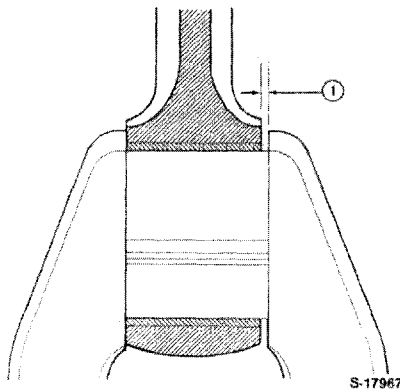

Figure 63
- Push the rod from side to side and check the clearance between the connecting rod and crankshaft with a feeler gauge, Figure 63.